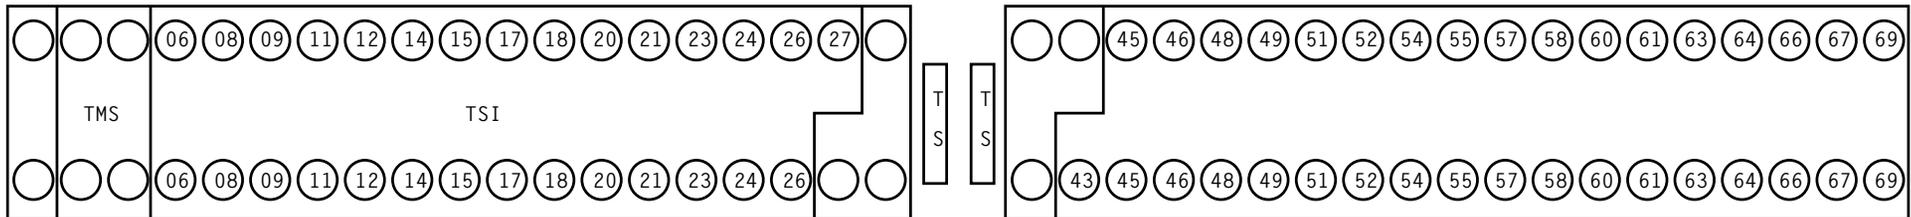

Figure 1 - Coax Jack Panels at Top of Network Clock Bay (Top Row - Level 81, Bottom Row Level 80)
* EQL numbers (not stamped on coax jack panels) are equipment locations of coax jacks which feed clock signals to TSI frames. See Figure 1. Assignments for these positions are office engineered and TSI member number is stamped adjacent to assigned output (coax jack). EQL = Equipment Location. Also see NOTE 1, TABLE A